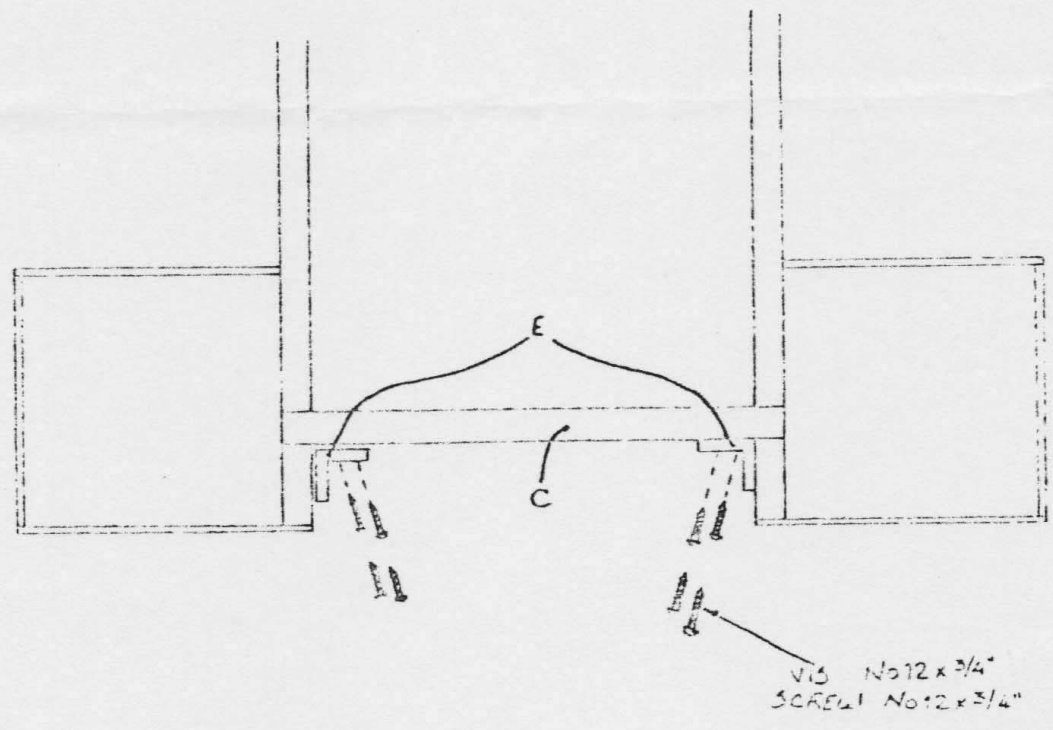

Fig. 2
Lay down the beater which is assembled and screw the shuttle race "C" with the iron fittings "E" with eight (8) screws No 12 X  $1"$  and two (2) screws No 14 X  $2"$  (Fig. 2).